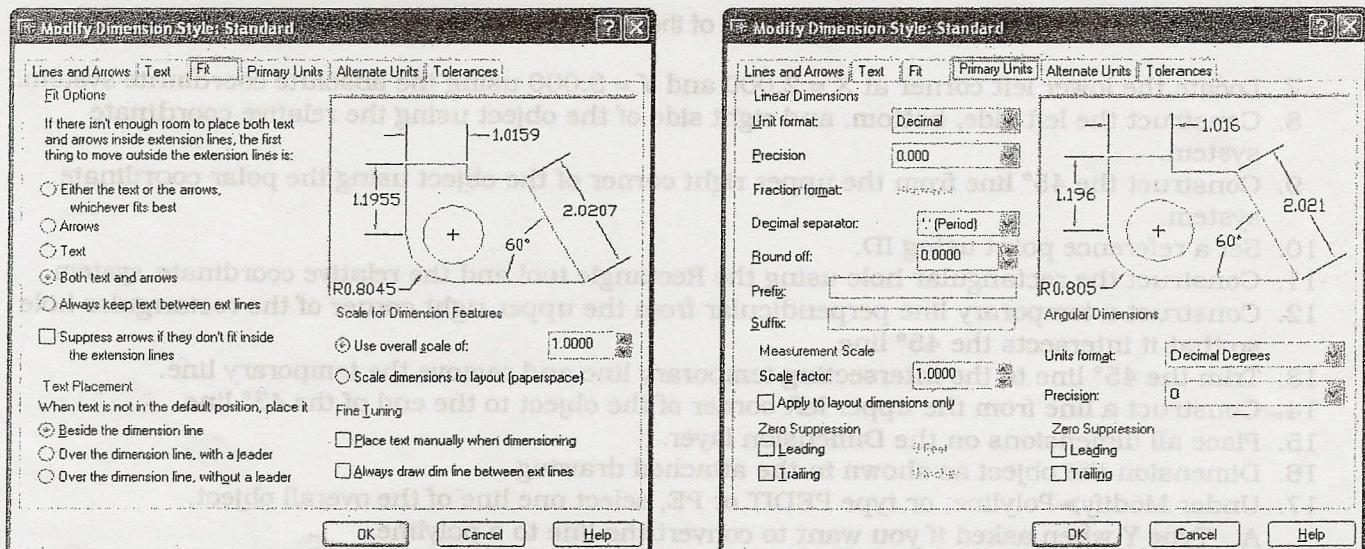

Figure 4a/b Fit tab and Primary Units tab of the Dimension Style Manager
- C. Click the Fit tab, set Fit Options = Both text and arrows. (Figure 4a)